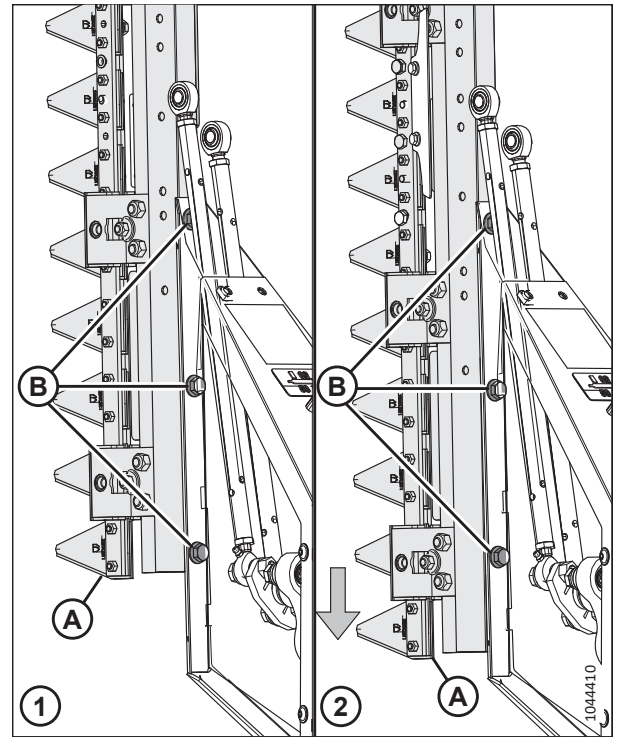

Figure 4.379: Adjusting Knife Position
13. Support knife assembly (A).
14. Remove bolts and washers (B). Clean any existing threadlocker from the bolts.
16. Reposition knife assembly (A) until the correct configuration holes line up with the holes on the frame. Refer to Figure 4.379, page 489.
17. Install bolts (B). Torque the bolts to 54 Nm (40 lbf-ft).